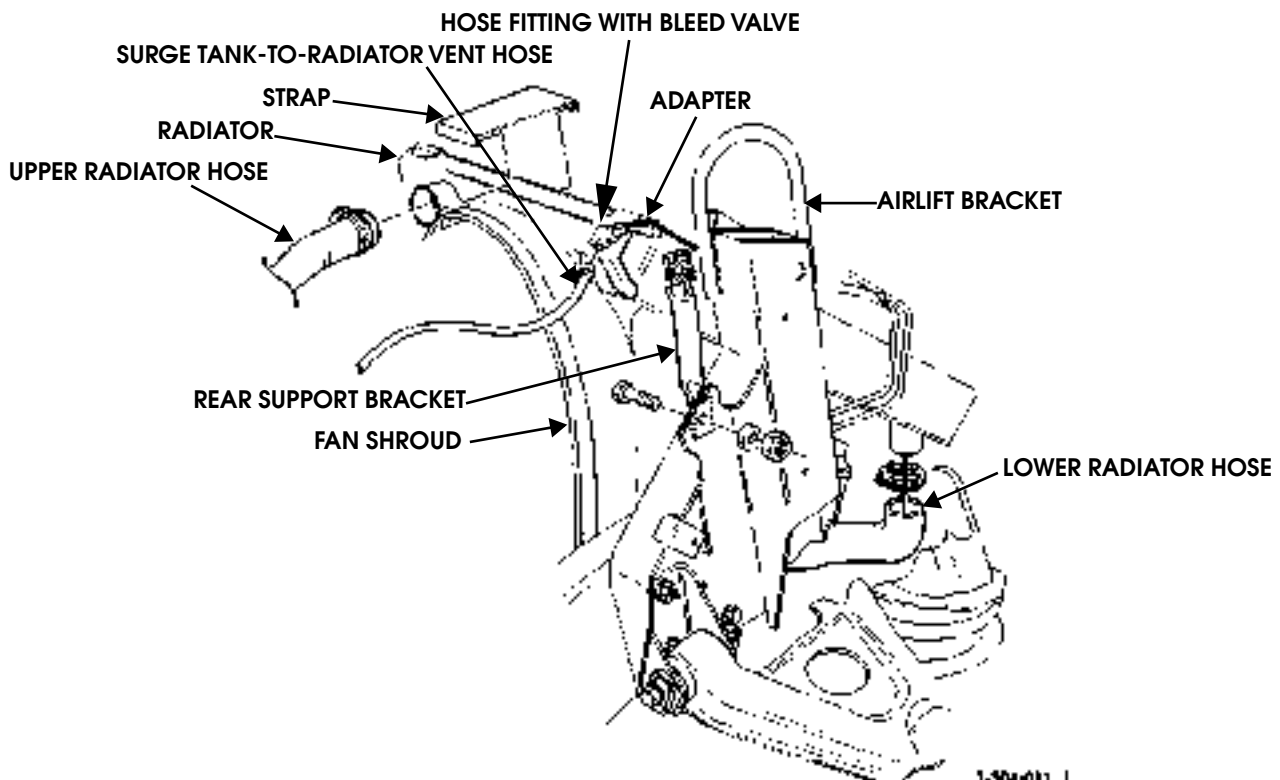

Figure 4-4: Radiator and Fan Shroud Assembly Mounting
4. Disconnect upper hose from radiator (Figure 4-4).
12. Detach rear support brackets from airlift brackets (Figure 4-4).
3. Inspect adapters and fan shroud (Figure 4-4).
4. Fasten rear support brackets to air lift brackets with bolts, washers, and locknuts. Do not tighten locknuts (Figure 4-4).
7. Tighten rear support bracket locknuts to 26 lb-ft (35 N•m). Tighten frame bracket bolt to 30 lb-ft (41 N•m) (Figures 4-4 and 4-5).
9. Install strap on radiator and shroud (Figure 4-4).